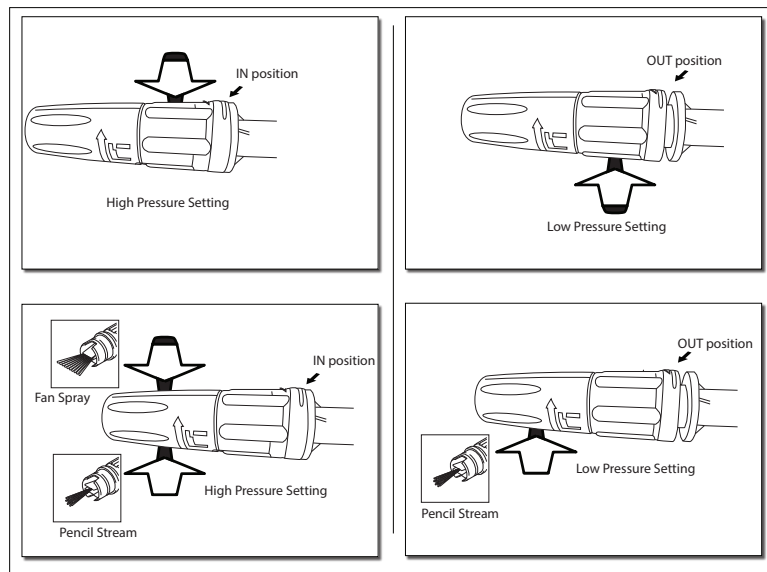

Fig. 11
- The adjustable spray nozzle has two (2) positions (**Fig. 11**):